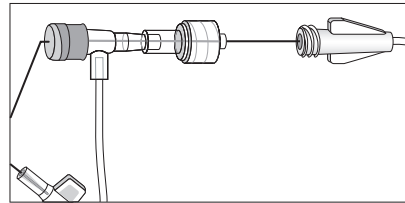

Figure 7
**⚠ Warning: Remove stiffening stylet and Luer-Lock sidearm assembly as a unit (refer to Figure 7). Failure to do so may result in wire breakage.**